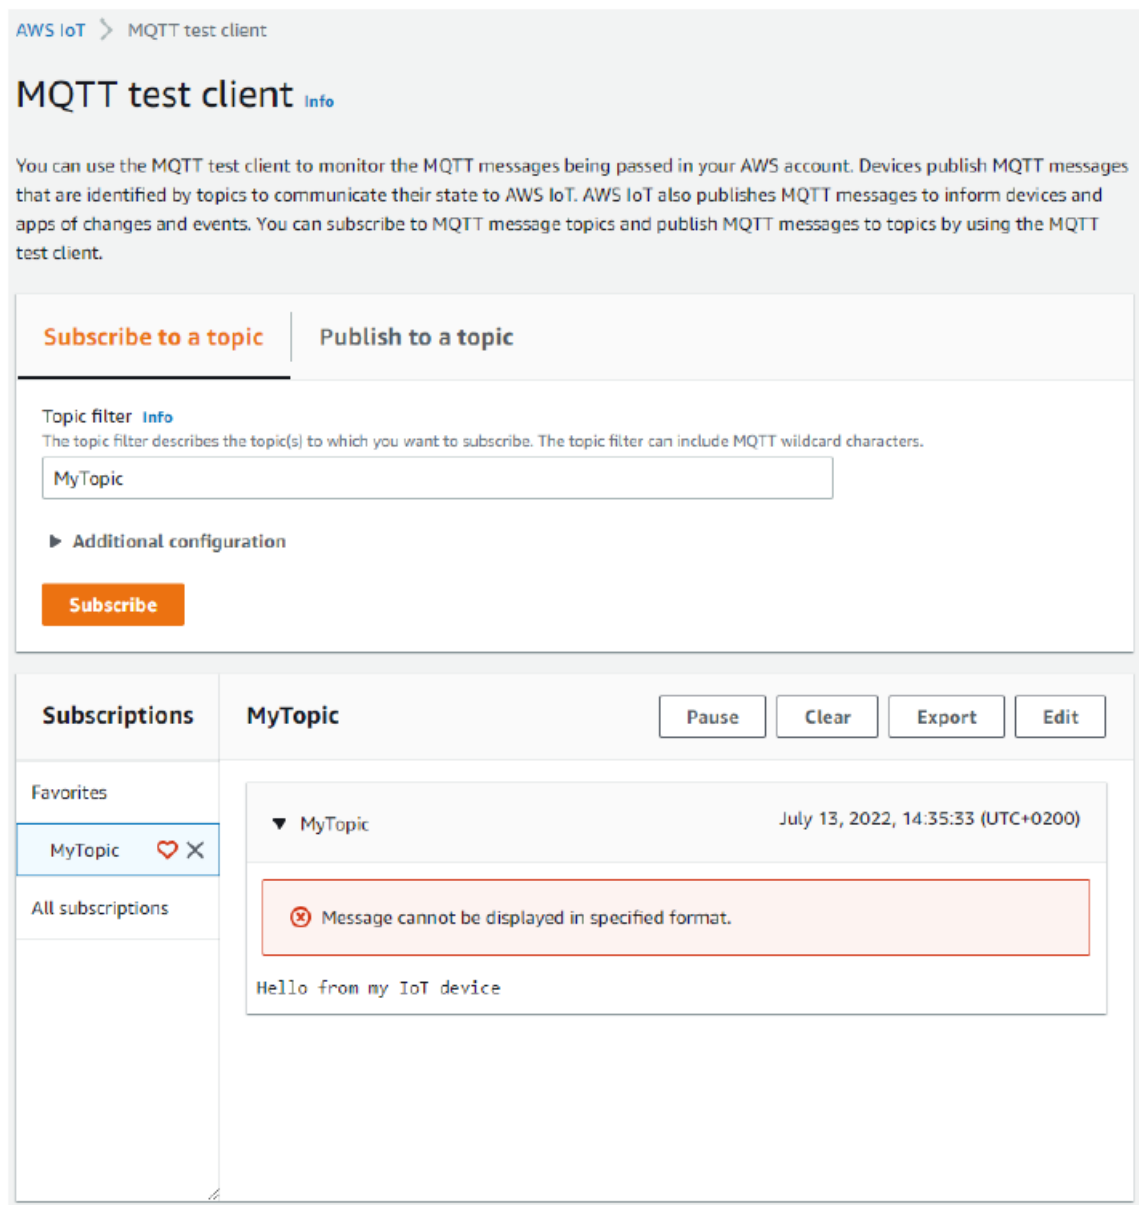

Figure 3: MQTT test client in AWS IoT console
3. Check that the message “Hello from my IoT device” is now displayed on the AWS IoT console under the topic “MyTopic”, as shown in **Figure 3**.